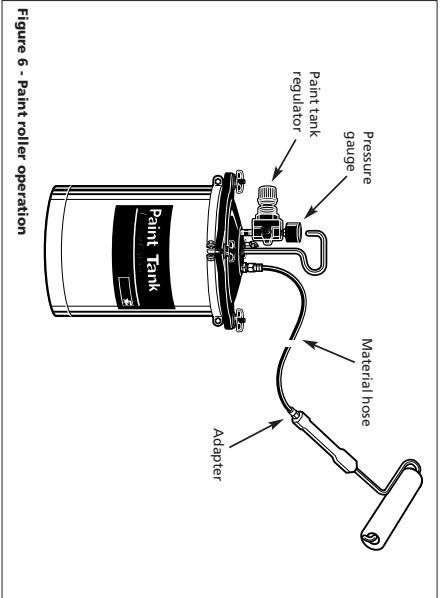

Figure 6 - Paint roller operation
- Attach material hose between roller and paint tank (See Fig. 6).